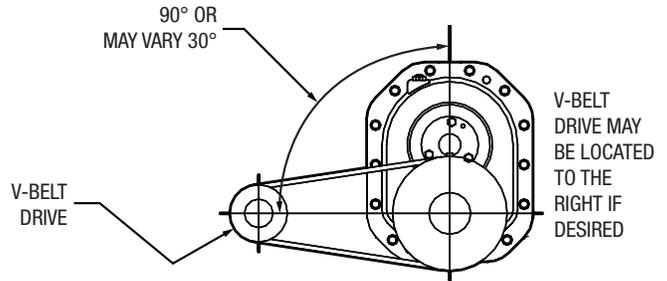

Figure 3 - Angle of V-Drive
- If not using a Dodge Torque-Arm II motor mount, install motor and V-belt drive so belt will approximately be at right angles to the centerline between driven and input shaft. (See Figure 3) This will permit tightening the V-belt with the torque arm.